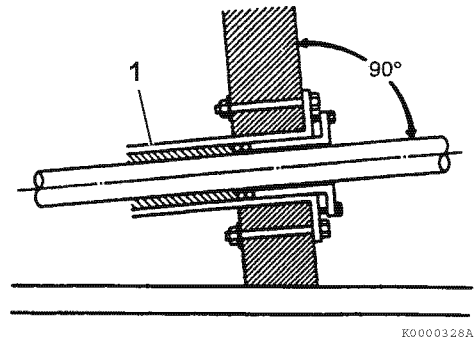

Figure 5-22
- When the stern tube attaches with bolts, apply sealing agent and secure with bolts (1, **Figure 5-22**).